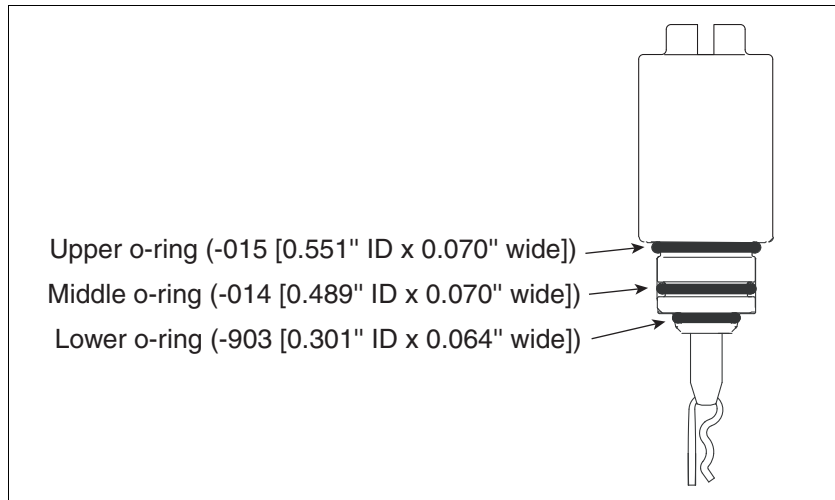

Figure 41. Hitch Pin In Position To Install Air Purge Screw
- 8. Lubricate the three O-rings on the new screw with petroleum jelly and install it with the hitch pin pushed on and hanging in the vertical position (see Figure 41).